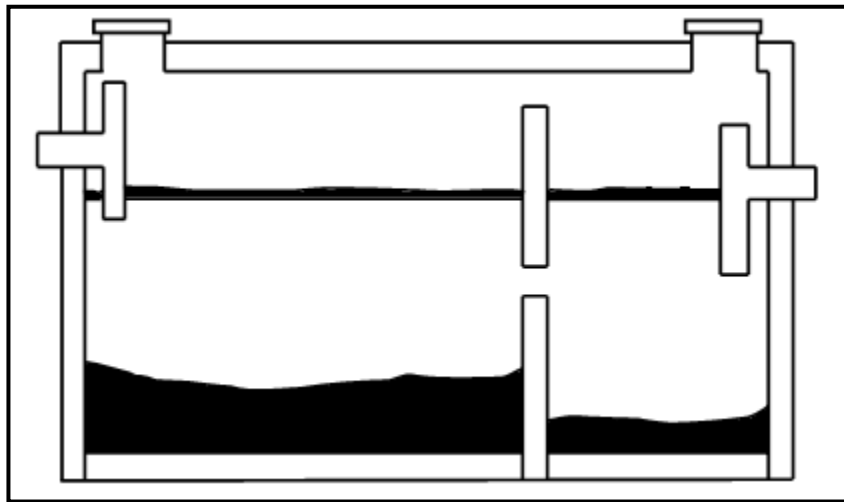

FIGURE 6.9
- 6.9 FIGURE 6.9 below shows a sectional view of a septic tank. Study the drawing and explain the working process of a septic tank. (6)